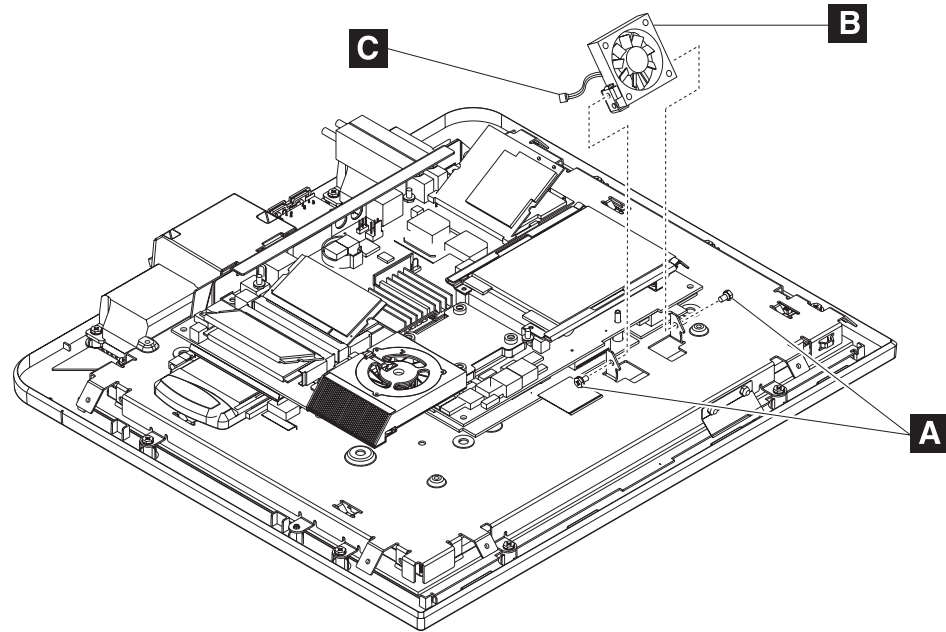

Figure 19. Removing the hard drive fan
2. Detach the fan connector (**C** in Figure 19) from the system board.
3. Using a Phillips screwdriver, remove the two screws located on each side of the hard drive fan (**A** in Figure 19).